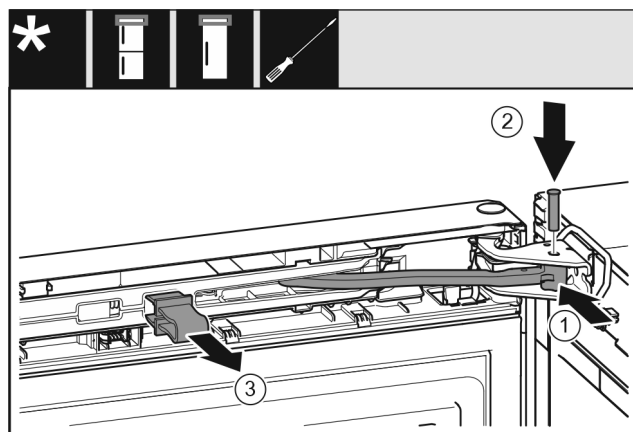

Fig. 30
- ▶ Turn the joint Fig. 30 (1) in the bearing block.
- ▶ Insert theobolt Fig. 30 (2) into the bearing bracket and joint. Ensure that the latching cam is in the groove properly.
- ▶ Remove the safeguard Fig. 30 (3).